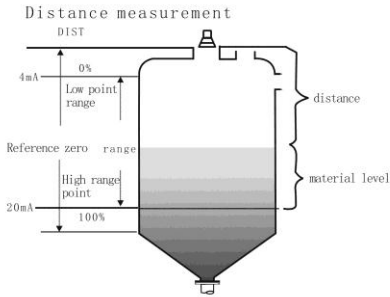

Figure 1.1 Distance measurement
(3) The height value of probe input to the “reference zero”(the height of probe is the distance from the launch surface of probe to the bottom).
①For distance measurement, the reference zero is useless. The position of low point range and high point range can check the figure1.1